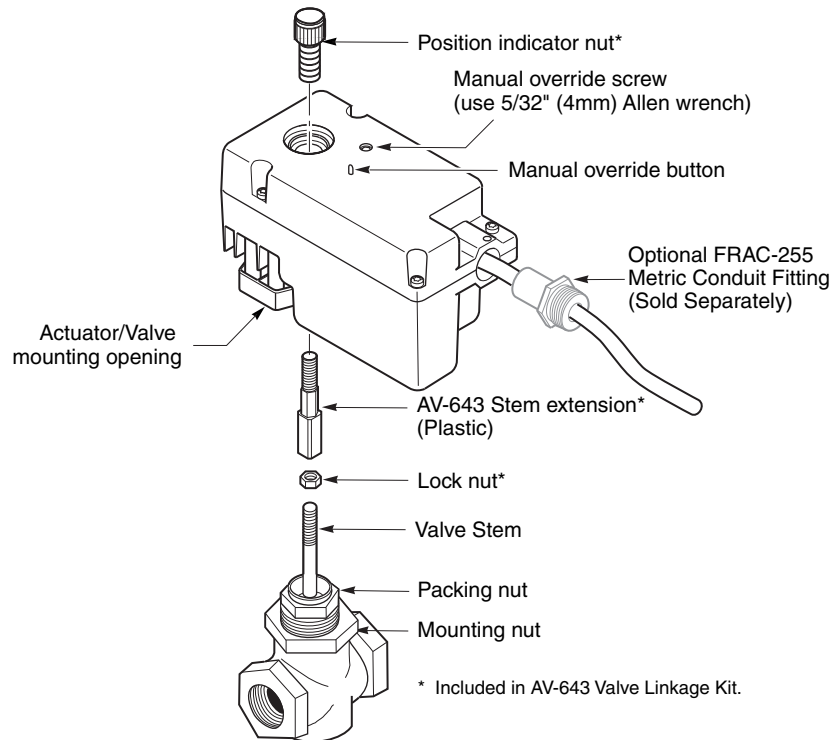

Figure-6 MF-22xx3 Series and MS-22353 Actuator Assembly Diagram with Obsolete AV-643 Linkage.
2. Remove the actuator from the valve. Unscrew the position indicator nut on the top of the actuator. Refer to Figure-6 for part identification.